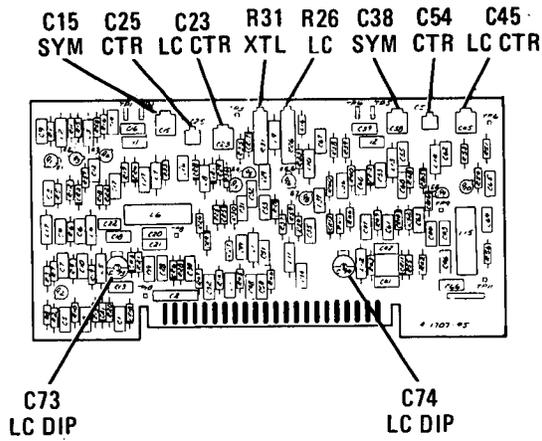
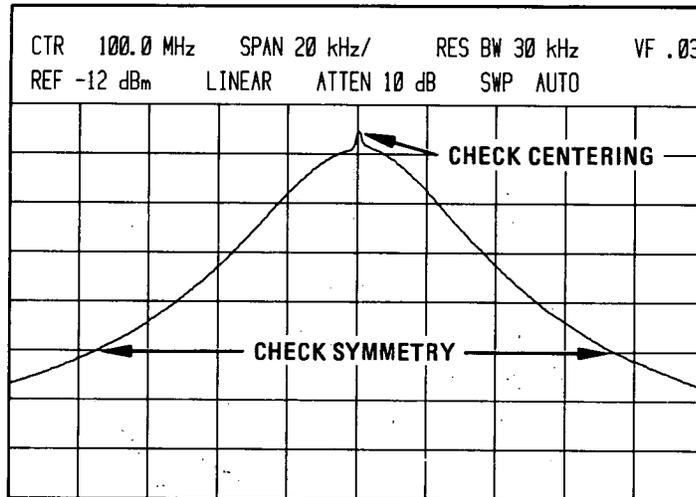

Figure 5-20. Bandwidth Filter Adjustment Locations
Figure 5-21. Crystal Filter Adjustment
5. Adjust front-panel TUNING control to center bandpass spike (Figure 5-21) on CRT display.
6. Adjust A23C54 CTR and A23C38 SYM (Figure 5-20) for a centered and symmetrical bandpass. Crystal center adjustment A23C54 is adjusted for minimum signal amplitude (Figure 5-21).
8. Adjust A23C25 CTR and A23C15 SYM for a centered and symmetrical bandpass. Adjust A23C25 CTR for minimum signal amplitude (Figure 5-21).
10. Adjust A27C54 CTR and A27C38 SYM for a centered and symmetrical bandpass. Adjust A27C54 CTR for minimum signal amplitude (Figure 5-21).
12. Adjust A27C25 CTR and A27C15 SYM for a centered and symmetrical bandpass. Adjust A27C25 CTR for minimum signal amplitude (Figure 5-21). Remove all crystal shorts from spectrum analyzer.